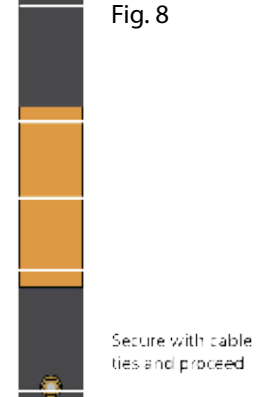

Fig. 8
8. Loading the Packer: Secure the packer using insulation tape (one on each end of the folded packer about 450mm from either end.) Secure the wetted patch to the packer using tape around the centre of the patch and on each end of the patch (Fig. 8). Pull/carry the packer and patch to the position of the point of repair as marked on the air hose/ pull cables.